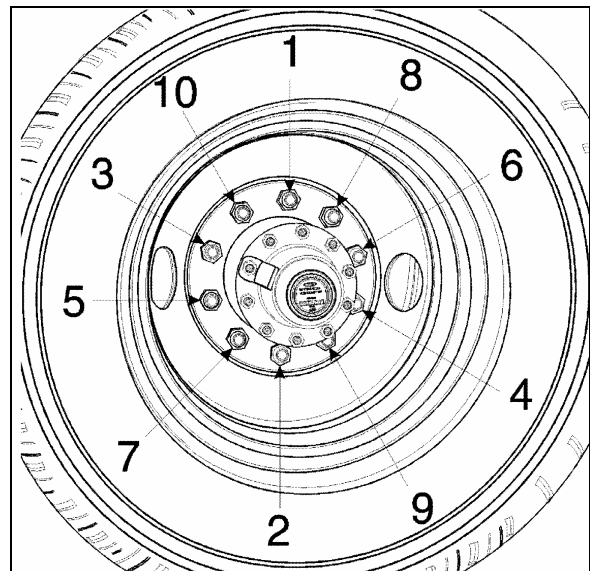
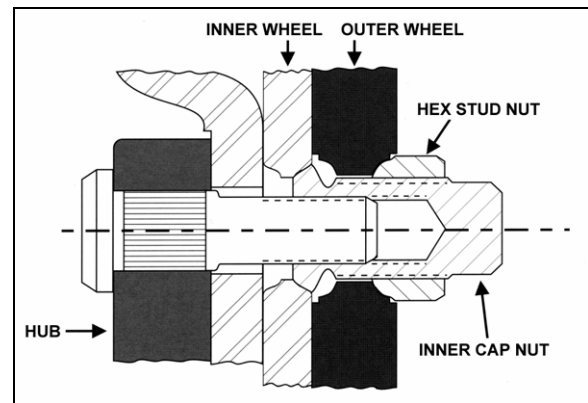

FIGURE 2: TIGHTENING SEQUENCE
FIGURE 4: STUD-MOUNTED WHEELS 13007
It is also important that wheel stud nuts be tightened alternately on opposite sides of the wheel. Refer to Figure 2 for the suggested tightening sequence.
Tighten stud nuts progressively as shown in Figure 2. The final tightening should be done with a torque wrench. Tighten stud nuts to 450 - 500 lbf-ft (610 - 680 Nm) for aluminum as well as steel wheels.
2. Screw in the hex stud nuts (refer to Figure 2 for sequence) so that wheel will position itself concentrically with hub. This is important, otherwise wheel may be eccentric with hub and will not run straight. In this initial step, slightly tighten the nuts to correctly position the wheel;
3. Tighten stud nuts progressively as shown in Figure 2. The final tightening should be done with a torque wrench. Tighten stud nuts to 450 - 500 lbf-ft (610 - 680 Nm) for aluminum as well as steel wheel.
2. Screw in the inner cap nuts (Fig. 4), so that wheel will position itself concentrically with hub. Refer to Figure 2 for sequence;
3. Tighten inner cap nuts progressively according to sequence shown in Figure 2. Final tightening should be done with a torque wrench. Tighten inner cap nuts to 450 - 500 lbf-ft (610 - 680 Nm) for aluminum as well as steel wheel.
With inner wheel installed, tighten the hex stud nuts (Fig. 4) using the single wheel installation procedure described previously.
1. Loosen a hex stud nut three turns (Fig. 4);
Repeat for each of the 10 "hex stud nut - inner cap nut assemblies" according to the tightening sequence in figure 2.